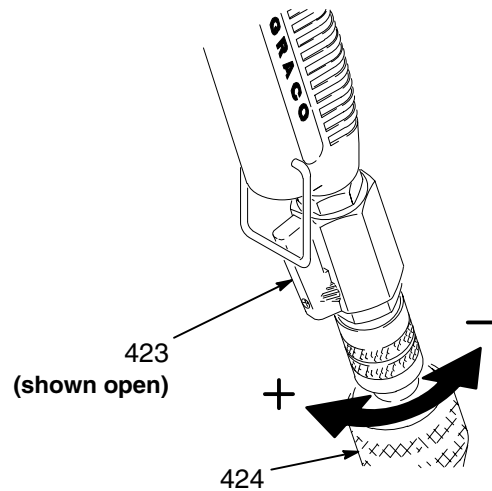

Fig. 9
How to relieve compressor pressure: Be sure the gun air valve (423) and air restrictor valve (424) are open. This relieves compressor air every time you shut off the system. See Fig. 9.
- Air bleeds from the gun nozzle when the gun air valve (423) is open. See Fig. 9. You may close the valve to stop the air, or you can leave it open at all times except while priming the system. See **Spray Techniques** on pages 12 and 13 for more gun characteristics.